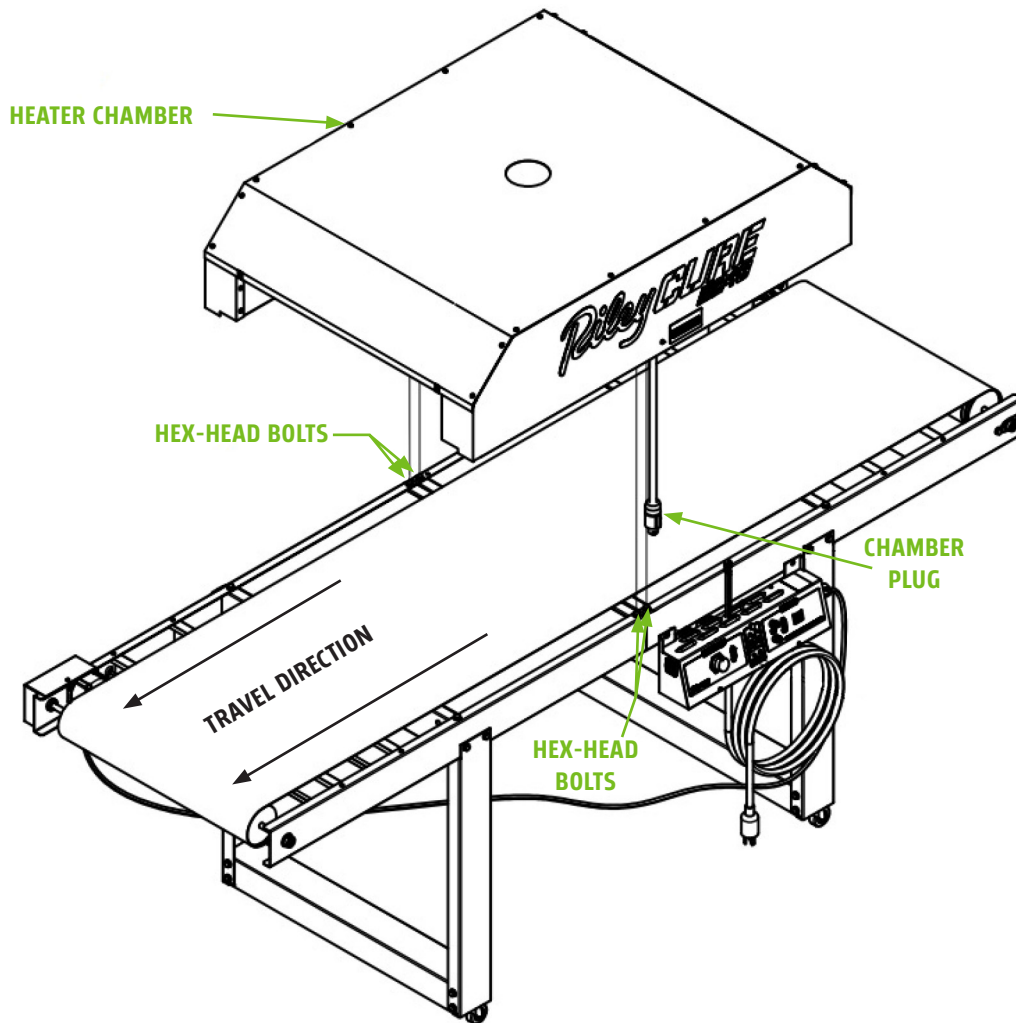

FIGURE 11
1. **Using two people**, set the Chamber onto the conveyor bed (See **Figure 11**). The Heating Chamber Cord must be on the same side of the Conveyor Bed as the Control Panel.
2. The Heating Chamber has openings on the underside rails that fit over the Hex-Head Bolts (See Magnified View, **Figure 11**). The chamber should rest flatly on the conveyor bed.